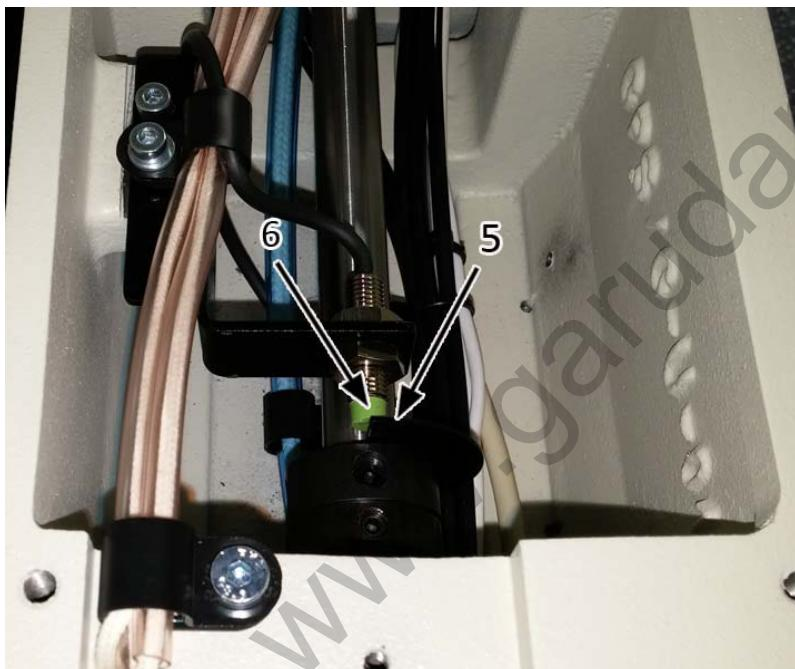

Fig. 46
- For setting of initial points on X and Y axes move the feeding plate to its central position in both axes. Initial point refers to the actual center position of the feeding plate towards the needle. In this position the edges of sensor plates 1 and 3 are in line with the middle of sensors 2 and 4 (like the edge of sensor plate in the fig. 46)
- C. Sensor 6 of Z axis is located in the machine head and it can be reached after taking off cover of the machine head. Revolving sensor plate 5 is located on the main shaft. Put the needle in the lower stop position and make the setting of the sensor plate 5 located on the ring as it is illustrated in the figure 46 – the sensor plate is in the middle of the body of the sensor 6.